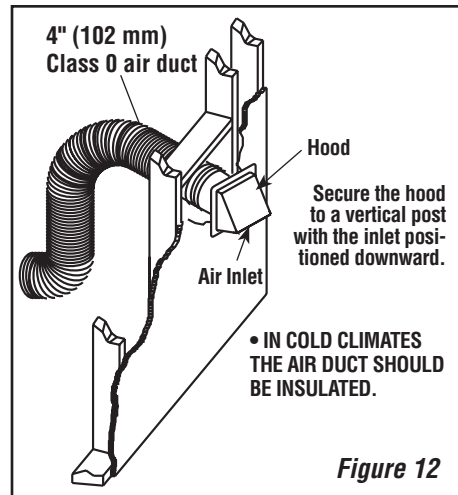

Figure 12
8. **Duct Hole Framing:** Cut or frame a hole through the outside of the enclosure for the installation of the duct inlet hood. A 5" (127 mm) diameter hole is required. Feed the loose end of the flexible duct through the hole cut for the inlet hood and attach to the collar on the inlet hood using two (2) short screws (provided), then wrap with duct tape. Insert the hood into the opening. Secure in place with nails driven through the holes in hood flange. Seal with noncombustible waterproof silicon type caulking. If additional duct is needed, use Class 0 metallic air duct (refer to **Figure 12**).